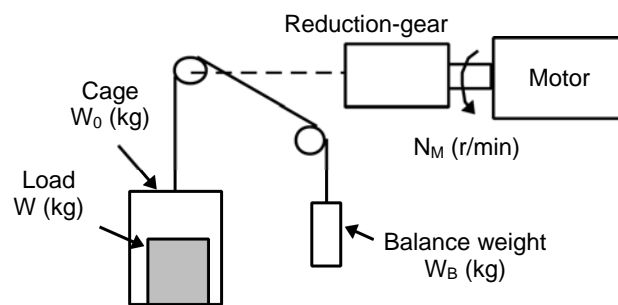

Figure 9.7 Vertical Lift Load
A simplified mechanical configuration is assumed as shown in Figure 9.7. If the mass of the cage is  $W_0$  (kg), the load is  $W$  (kg), and the balance weight is  $W_B$  (kg), then the forces  $F$  (N) required for lifting the load up and down are expressed as follows:
The moment of inertia  $J$  ( $\text{kg} \cdot \text{m}^2$ ) of the loads connected with a rope as shown in Figures 9.7 and 9.8 is calculated with the following equation using the mass of all moving objects, although the motion directions of those loads are different.